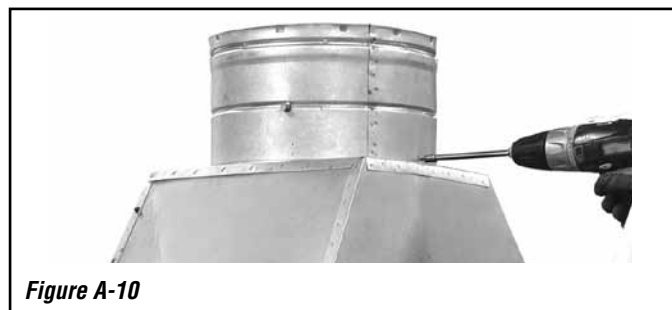

Figure A-10
- 5.4. See **Figure A-10, below**. Using a 5/16" hex head nut driver, secure the damper assembly with the five (5) provided zinc-plated #10 x 3/8" screws.